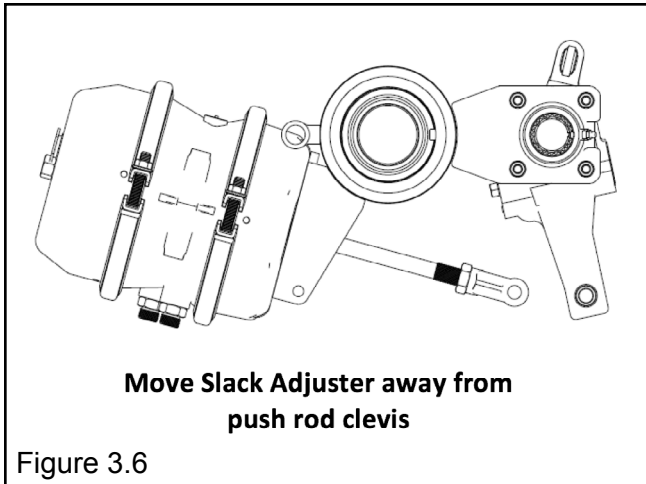

Figure 3.6
2. Move the slack adjuster away from the clevis by rotating the adjusting nut (Figure 3.6).